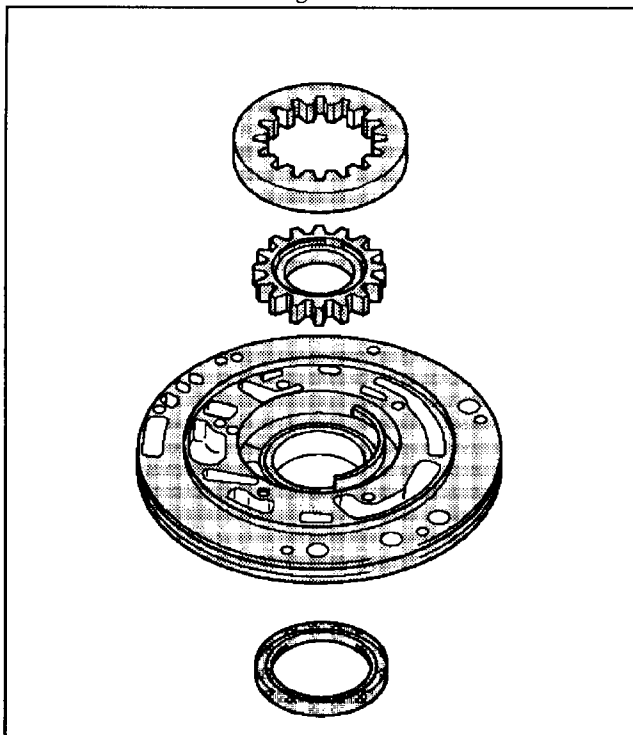

Figure 72
5. Remove the inner and the outer pump gears from the pump body. Be sure to check the inner gear bushing for wear, replace as necessary (See Figure 72).
6. Carefully remove the seal from the front pump. Inspect the front pump bushing for wear, replace as necessary (See Figure 72).